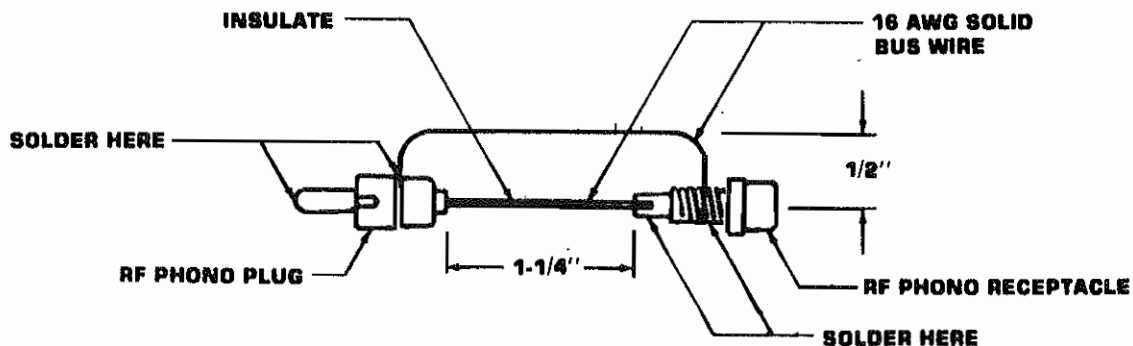

FIGURE 1
12. Applicator current transformer adapter (see Fig. 1).
3. Insert a RF current probe adaptor between the ultrasound applicator cable and the RF phono receptacle on the shield box located on the rear panel. The adaptor construction is shown in Fig. 1.